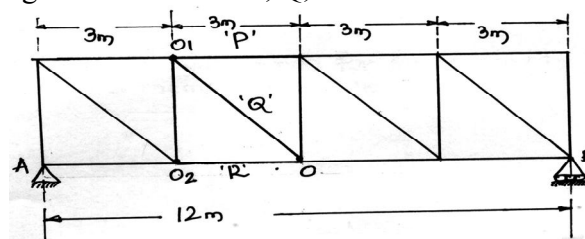

Fig.Q4(b)
- b. Draw influence line diagram in members P, Q, R of the truss shown in Fig.Q4(b).